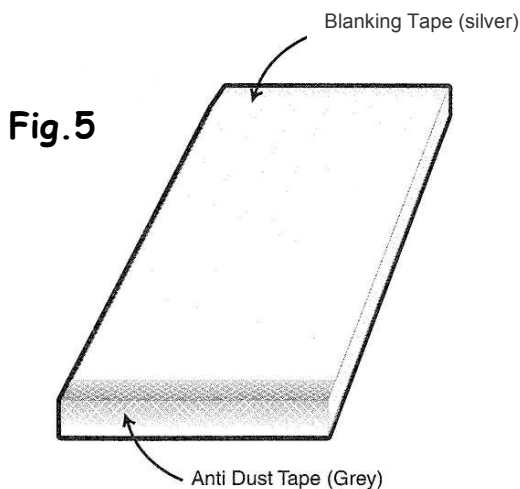

Fig.5
Step 5: We supply cut to size sheet blown free of dust and taped, ready to fit. If cutting sheet on site, you must ensure the flutes of the polycarbonate are free of any dust or swarf. This is done by blowing air through the flutes and sealing the ridge end of the sheet with blanking tape (PBT10/16/25, silver in colour). Seal the eaves (gutter) end of the sheet with anti-dust breather tape (Ref. FT 10/16/25, grey in colour). This process helps prevent dust entry whilst allowing condensation drainage (Fig.5).